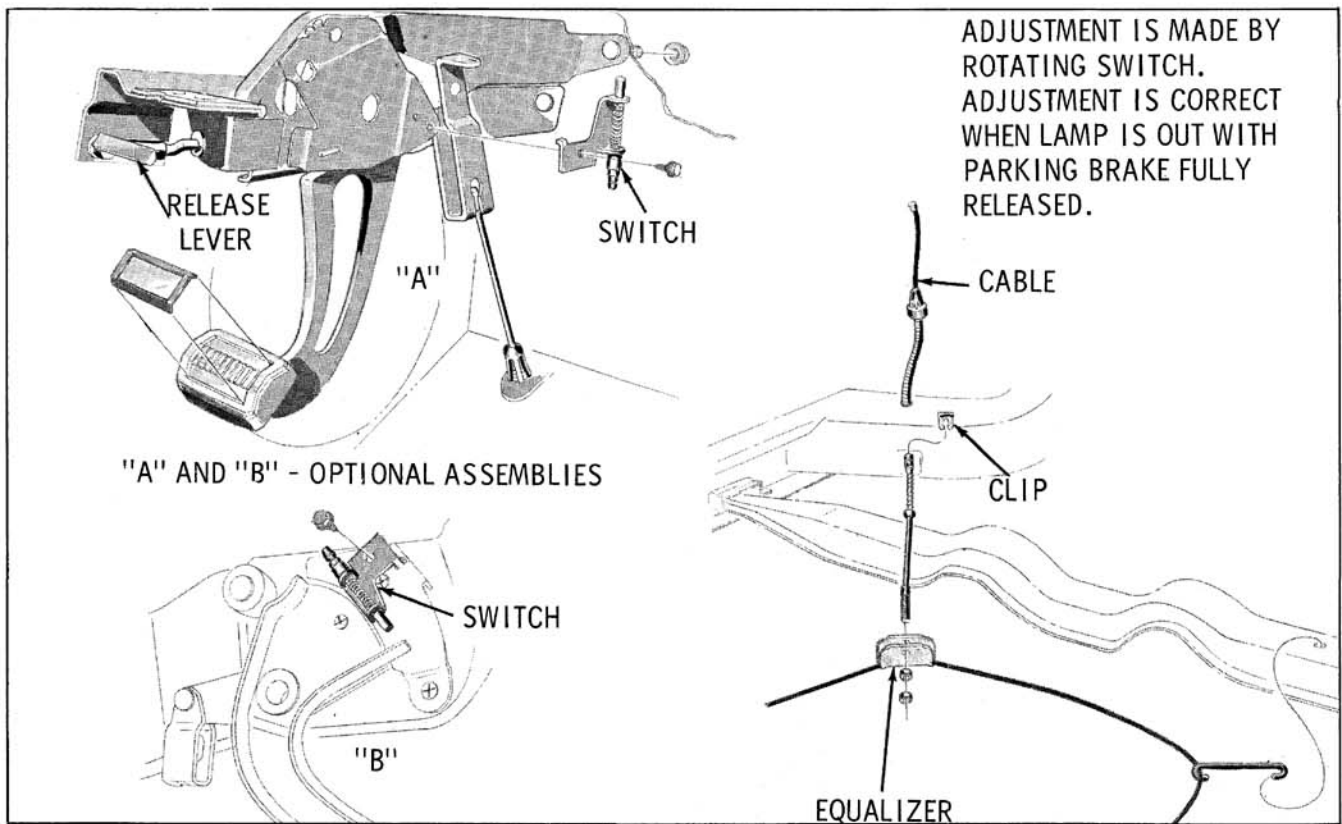

Fig. 11-1 Parking Brake
**PARKING BRAKE (Figs. 11-1 & 11-2)**
To adjust switch, refer to Figs. 11-1 & 11-2.